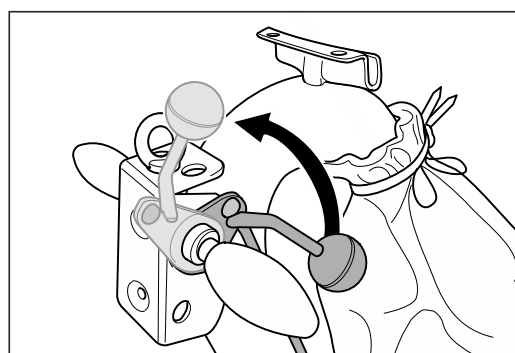

Fig. 16 Lift the sanding drum off the floor by turning the lowering lever at the handle upwards.
- **Always lift the sanding drum off the floor before switch on the machine (fig. 16)!**
- 1 Lift the sanding drum off the floor by turning the lowering lever at the handle upwards (fig. 16).
- 1 **Lift the sanding drum off the floor by turning the lowering lever at the handle upwards (fig. 16)!**
- 1 Before switch off the machine lift the sanding drum off the floor by turning the lowering lever at the handle upwards (fig. 16).